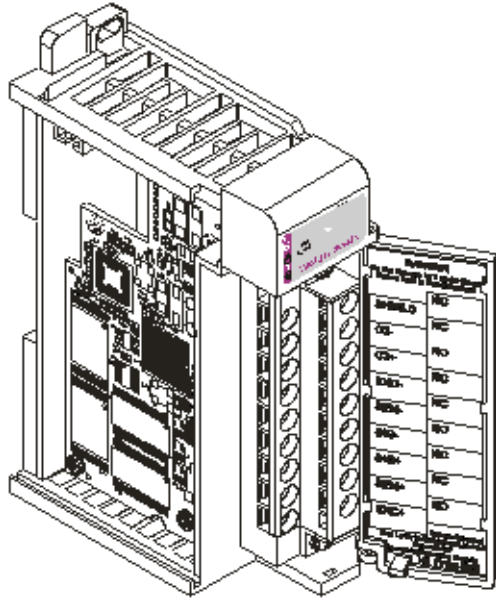

FIG. 3-4 MODULE CONNECTOR INSTALLED
The I/O Connector at the front of the module connects the module to the Remote Terminal Assembly (-RTA), a load sensor, or the HI 215IT Series Junction Box depending on how many load sensors are installed in the weighing system. See below for the pin-out diagram. The pin-out diagram is located on the inside of the module door. (See Fig. 3-4)
- Step 1. Open the Module door to gain access to the I/O connector. (See Fig. 3-4)